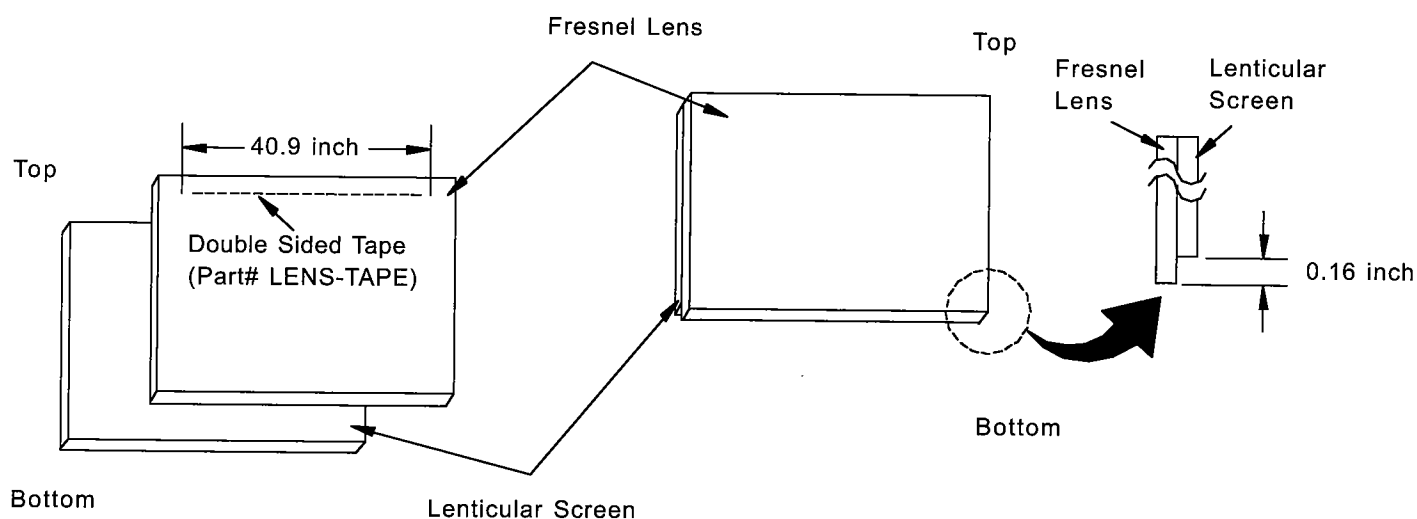

Fig. 4-3
1. Apply double coated tape (Part # LENS-TAPE) along the top front edge of the Fresnel Lens as shown in figure 4-3.
2. Place the Fresnel Lens on top of the Lenticular Screen and apply pressure at the top edge to bond them together as shown in figure 4-3.